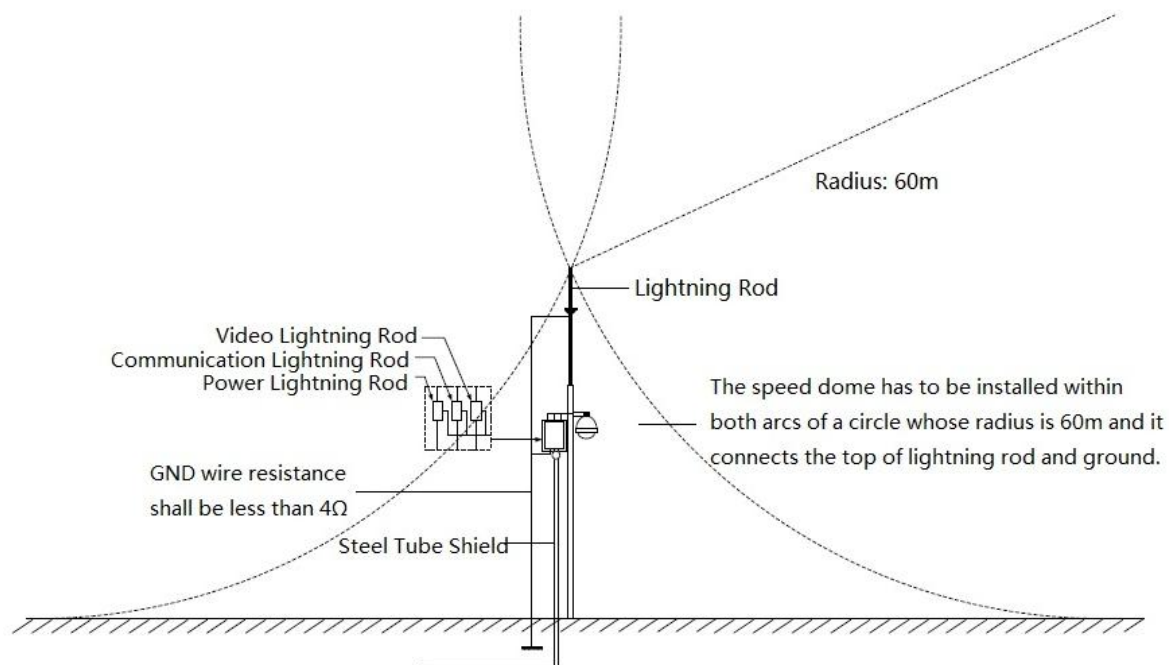

Figure 4-1
- System shall adopt equal-potential wiring. The earth device shall meet anti-jamming and at the same time conforms to your local electrical safety code. The earth device shall not short circuit to N (neutral) line of high voltage power grid or mixed with other wires. When connect the system to the earth alone, the earth resistance shall not be more than  $4\Omega$  and earth cable cross-sectional area shall be below  $25\text{ mm}^2$ . See Figure 4-1.